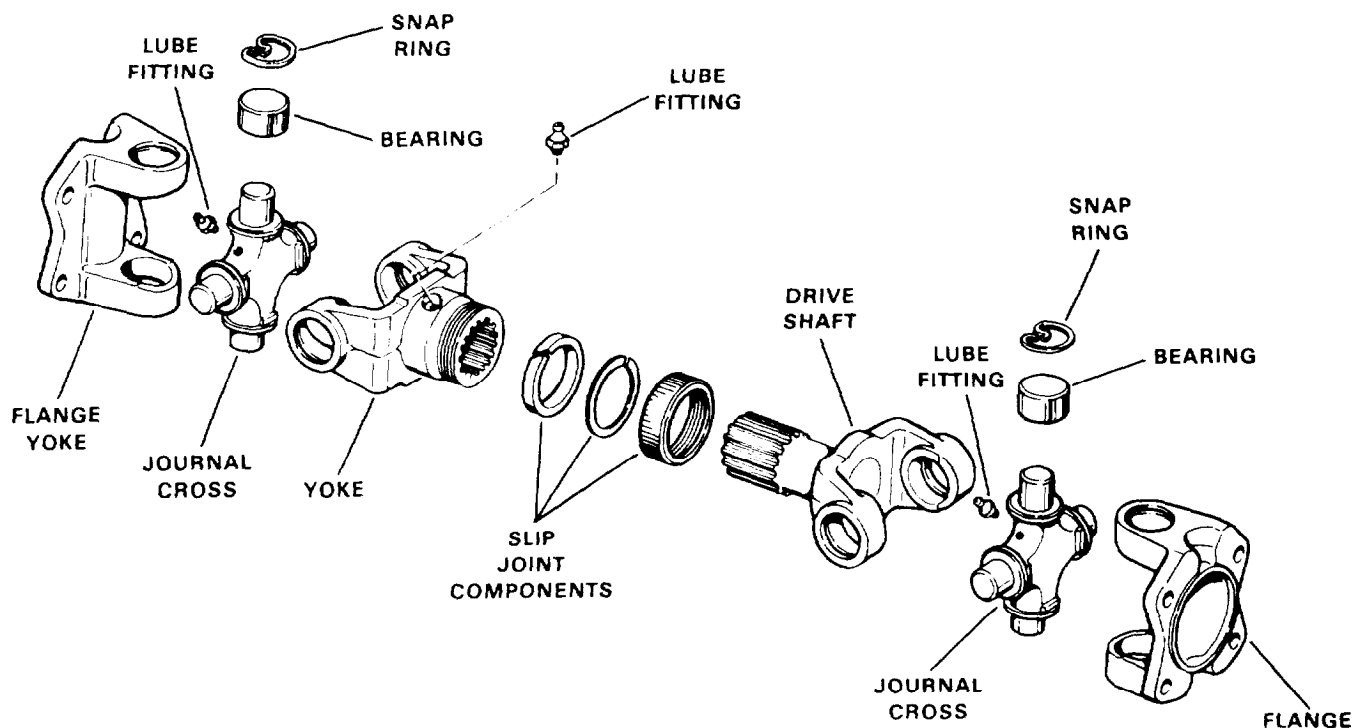

Figure 4D-2. Propeller Shaft (10Z553)
**REMOVAL.** To remove the propeller shaft, proceed as follows (see Figure 4D-2):
DISASSEMBLY. To disassemble the universal joint, proceed as follows (see Figure 4D-2):
ASSEMBLY. To assemble the bearing assemblies, proceed as follows (see Figure 4D-2):